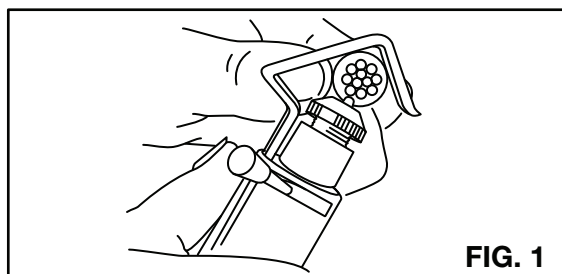

FIG. 1
1. Push cable support bracket up with thumb and place cable within "V" of bracket so that end of cable is next to cutting blade, see Fig. 1.
Adjust depth of cutting blade to thickness of cable insulation by turning the knurled screw, see Fig. 1. **NOTE:** Care should be taken so that the cutting blade is not deep enough to be nick or cut the strands of the cable. If the strands appear to be nicked or cut, the blade should be lowered to the proper depth.